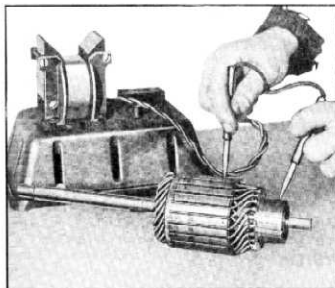

Fig. 43—Armature Test for Ground
1. Place one test prod on the armature and the other on the commutator (fig. 43).